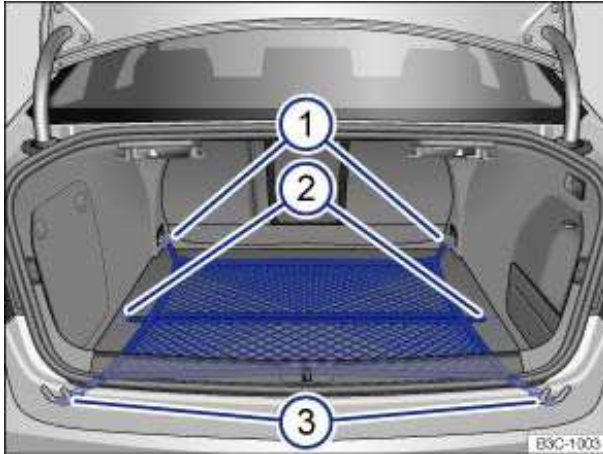

Fig. 93 In the luggage compartment: Luggage net hung horizontally.
- First, secure the luggage net hooks ⇒ fig. 93 (1) to the tie-downs on the rear seat backrest (1) ⇒ ⚠. The luggage net zipper must face upwards.
- Then secure the luggage net hooks (3) to the tie-downs on the loading edge (3) of the luggage compartment.